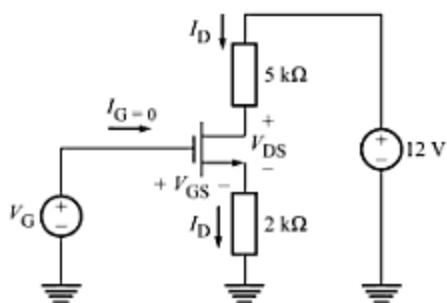

Fig. A-113
- A-80 Figure A-113 shows a field-effect-transistor (FET) circuit. Without knowing the current-voltage relationship for the device, we can still solve this circuit since it obeys Ohm's law and Kirchhoff's laws. (a) Determine V_{DS} , if $I_D = 1.5$ mA. (b) Determine V_{GS} , if $I_D = 1$ mA and $V_G = 3$ V.